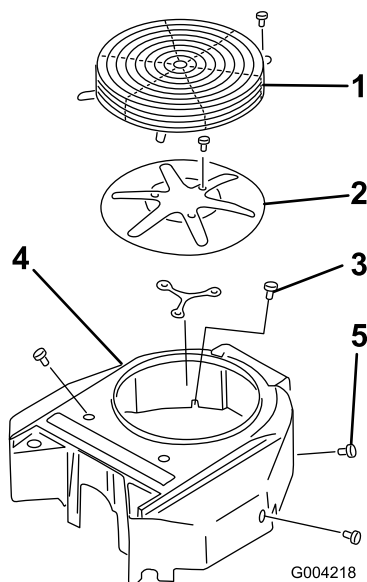

Figure 42
3. Remove the engine guard, the engine air intake screen, and the fan housing (Figure 42).
5. Install the engine guard, the engine air intake screen, and the fan housing (Figure 42).